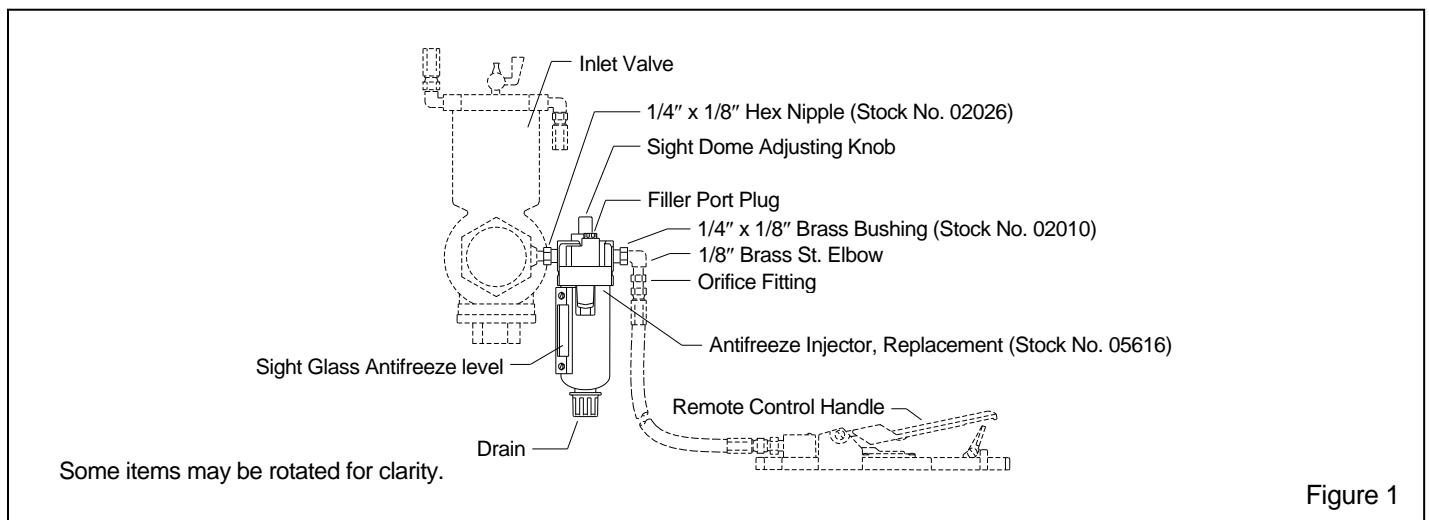

Figure 1
2.1 The antifreeze injector is placed between the inlet valve and the air line to the remote control handle as shown in Figure 1.